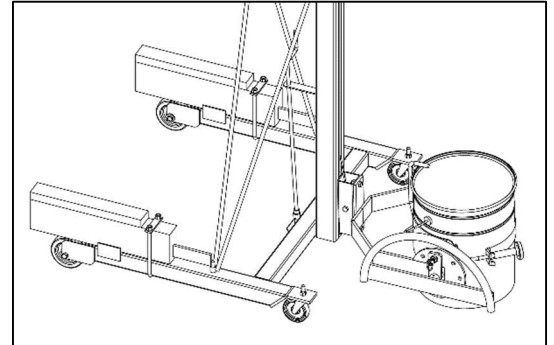

Figure 2
3. Attaching the pail: First, swing pivoting wire handle to lay on the back band side of the saddle. Next, close the front band hinge plate tightly against the pail (see Figure 2). Swing the clamp screw knob and engage the threaded rod into the slot on the front band hinge plate as shown in Figure 2. Tighten the clamp screw knob to secure the pail into the saddle.